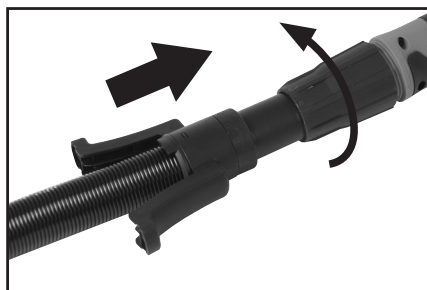

Fig. 7
- Insert the Flexible Extraction Hose fully into the end of the Extension Tube and tighten the sleeve nut to secure it in place. **(Fig. 7)**